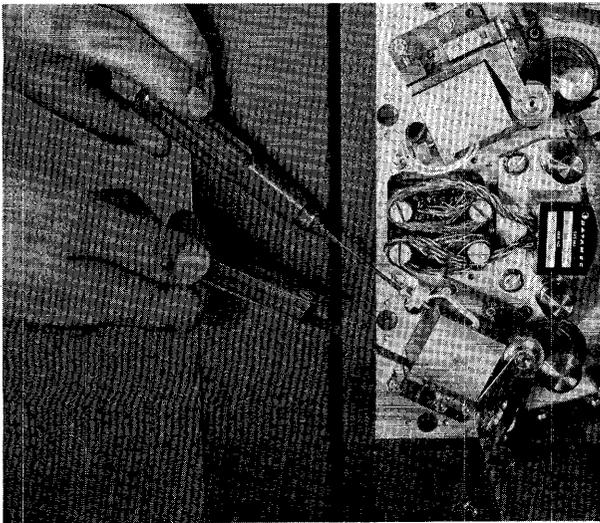

Figure 6-13
Step 2: Insert a 0.002 brass shim between the coil housing and the clapper. (Fig. 6-13).